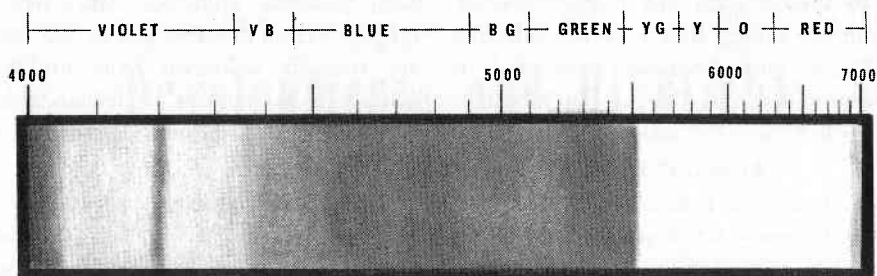

Figure 4
*Figure 4* is the absorption spectrum of an oval double cabochon of a translucent pink material we identified as sintered synthetic corundum. Although the pink color was unlike any known gem material, resembling a piece of hard candy, we did expect to see chromium in the absorption spectrum. Heretofore, we have seen sintered corundum in nearly opaque white and translucent orange-pink, resembling coral.